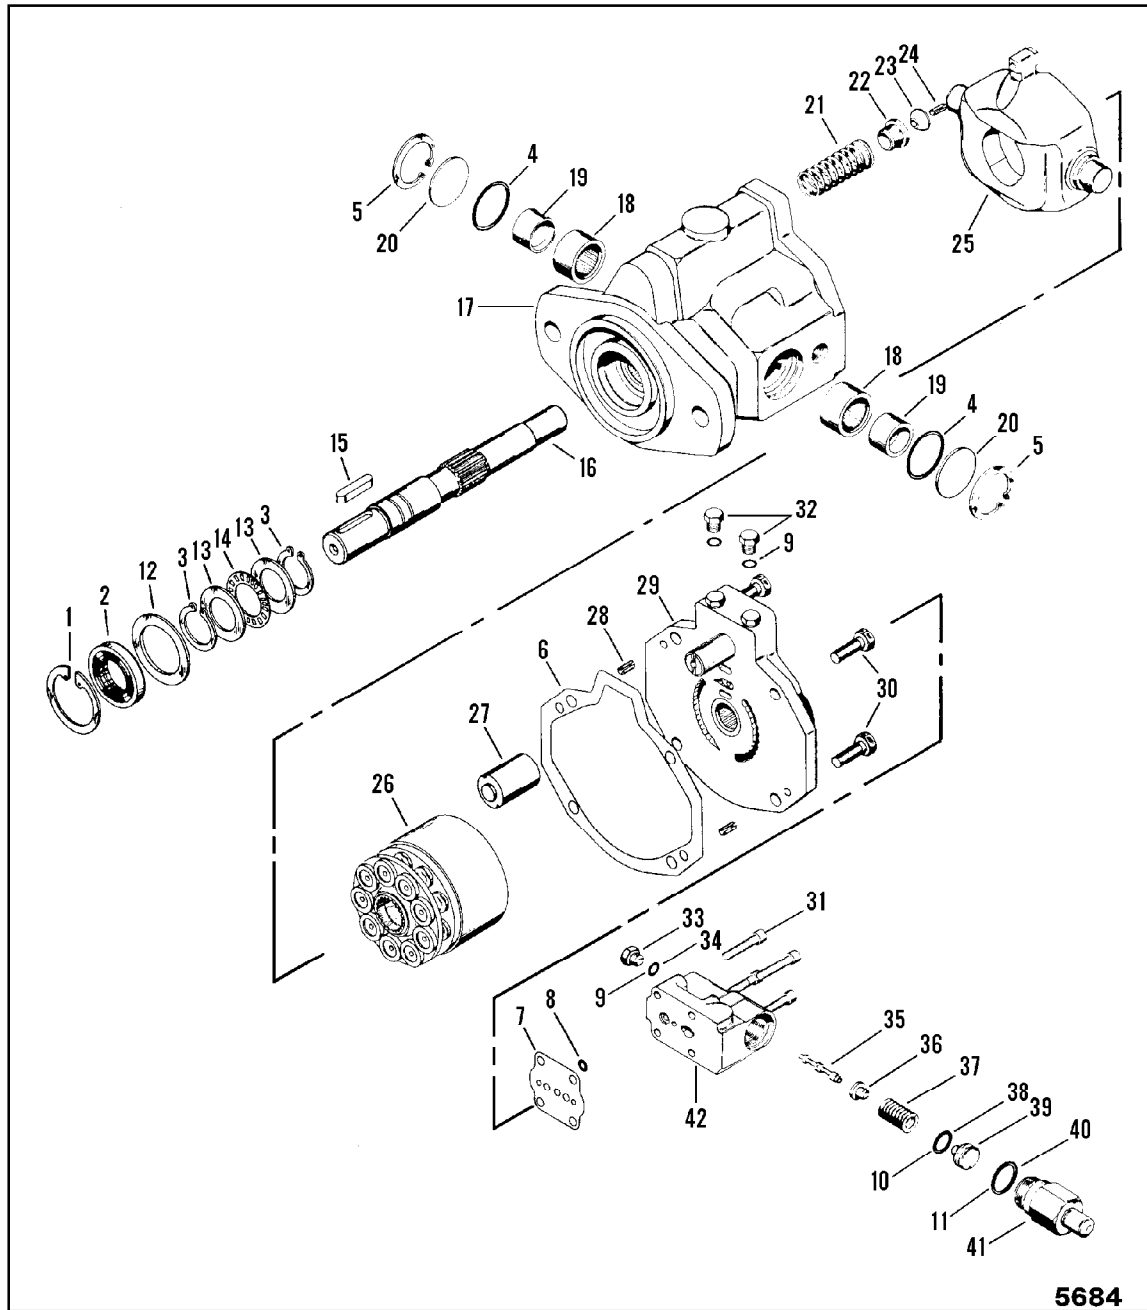

Figure 4 EXPLODED VIEW OF STEERING & BRAKE PUMP
1. Clamp end of drive shaft in a protected jaw vise with body of pump up and remove four allen head screws (31, Figure 4) holding compensator (42).
2. Remove compensator assembly (42, Figure 4), O-ring (8), and gasket (7).
3. Remove four bolts (30, Figure 4) from backplate of pump.